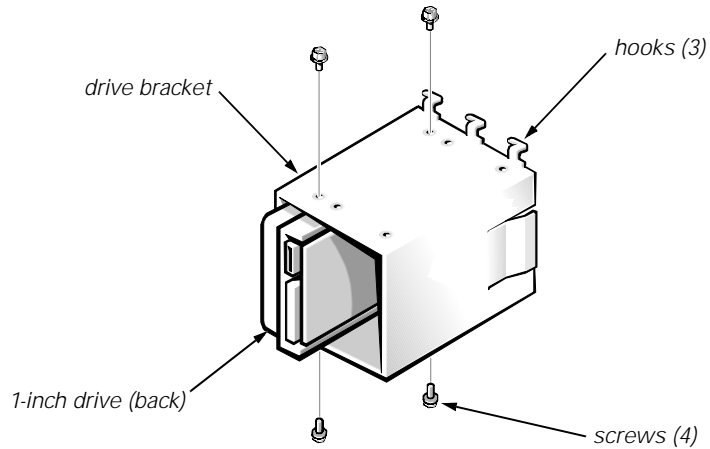

Figure 10-10. Inserting a 1-Inch Hard-Disk Drive Into the Bracket
4. Slide the drive into the chosen bay of the bracket, orienting it so that the connectors on the back of the drive face the inside of the chassis when the bracket is reinstalled and so that the drive is in the left-most position in the bracket (see Figure 10-10).
Use the four screw holes in the top and bottom of the bracket (see Figure 10-10) to secure the installed hard-disk drive(s).